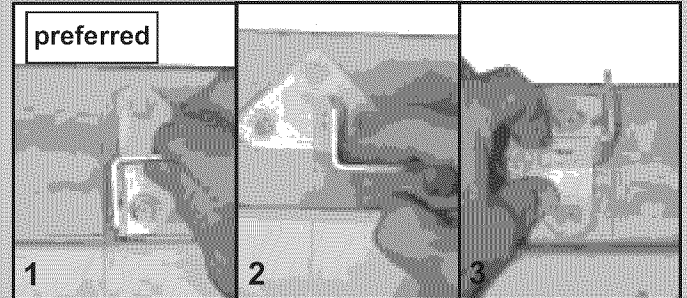

FIG. 2-5 Header bracket in place (3 methods).
**NOTE:** Although header bracket may be oriented several ways, method 1 is preferred if possible because of added strength over other methods (Fig. 2-5).
- Hold header bracket against wall (Fig. 2-5).
- Fasten header bracket with 3 lag screws (22) (Fig. 2-5).